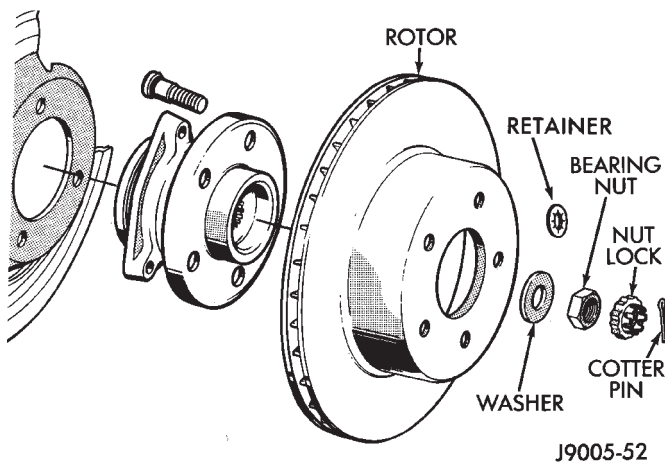

Fig. 27 Rotor And Hub
- (1) Raise vehicle and remove wheel.
- (2) Remove caliper.
- (3) Remove retainers securing rotor to hub studs (Fig. 27).
- (4) Remove rotor from hub (Fig. 27).
- (5) If rotor shield requires service, remove front hub and bearing assembly.